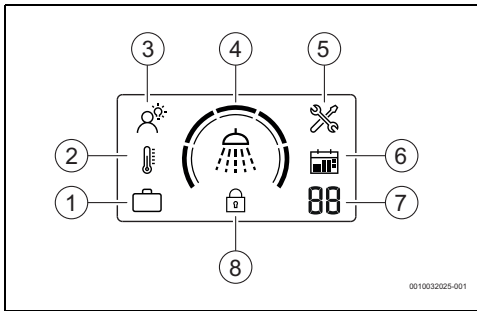

Fig. 5 Display controller assembly
- Press the  key until SMART mode appears on the display (→ Fig. 5 [3]).
- Press the  key until Manual mode appears on the display (→ Fig. 5 [2]).
- ▶ Press the  key until Vacation mode appears on the display (→ Fig. 5 [1]).
- ▶ Press the key  to set the desired number of vacation days (→ Fig. 5 [7]).
This function locks the control panel (→ Fig. 5 [8]).